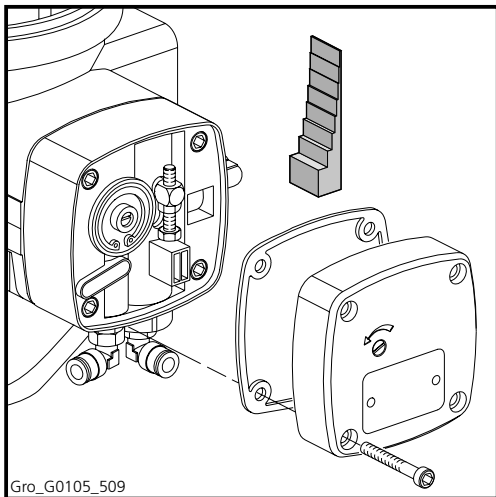

Figure 5.10 Gauge
2. Remove the cover (remember the gasket) and take the gauge out of the cover (Figure 5.10).